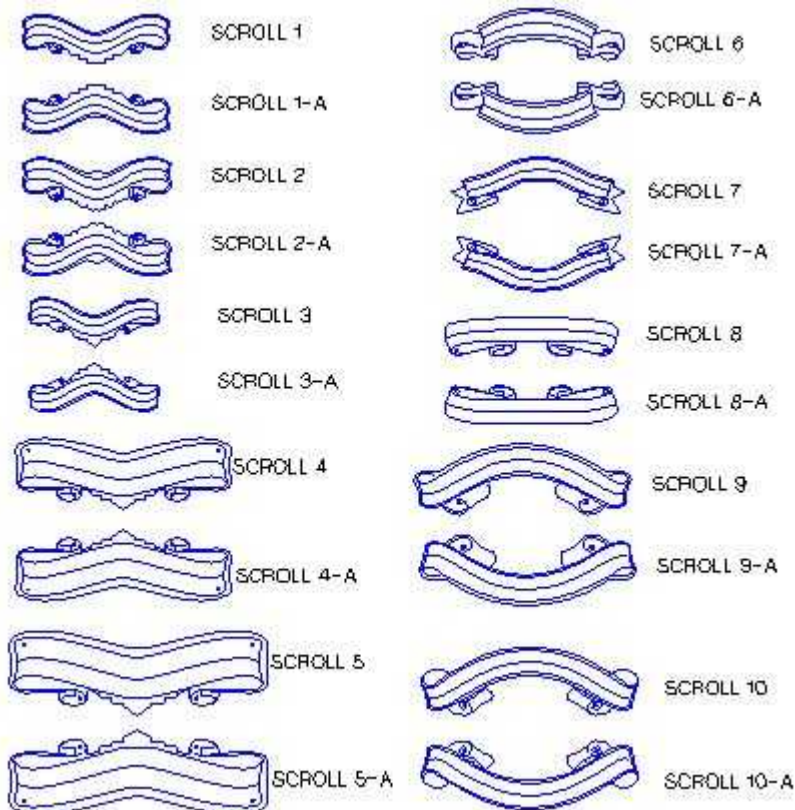

Figure 1
- 3 One you have navigated to the Scrolls Folder, Left Clicking on the Scroll Menu.SDT and Clicking On "Open" will allow you to see a visual representation of all the Scroll Templates, see Figure 1.